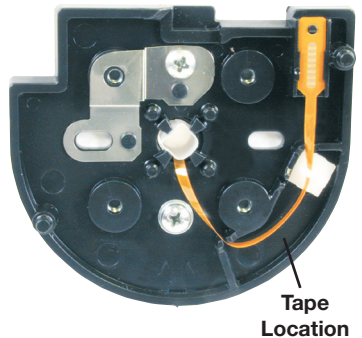

Figure 5 - Route Cable through Retainer (KU housing shown)
- Guide the cable through the center hole of the Mounting Plate and position the Mounting Plate (as shown in Figure 5) over the exposed tube and against the outside wall of the container.
- The cable must now be turned 90° and laid in the slots in the **cable containment area** to insure that it is safely controlled and out of the way for attaching the Front Cover to the Mounting Plate. Route the cable through the plastic cable retainer. (See Figure 5.) If any excess cable is sticking up, wrap it up and tape it down in an area of the Mounting Plate that will not get pinched by a screw.